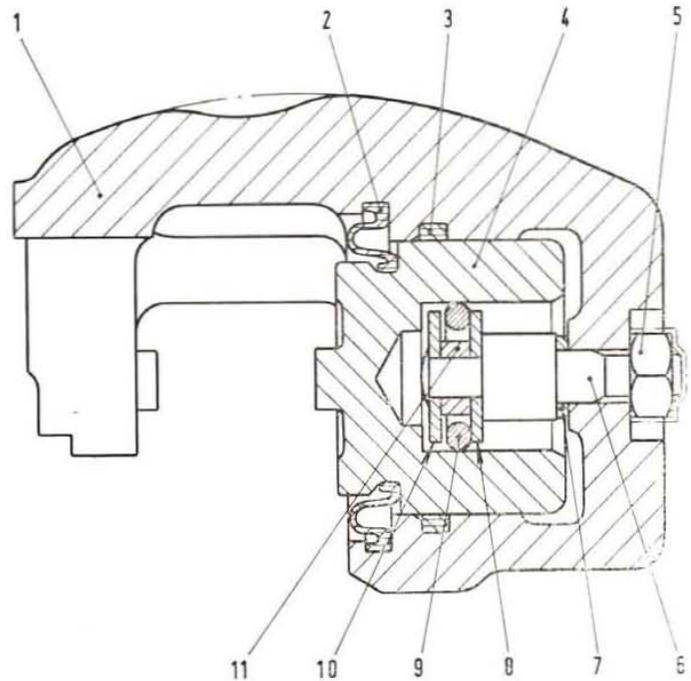

Fig. 451 - Side sectional view of the disc brake caliper.
The self-adjuster is assembled into piston (4, fig. 451) and works in fluid bath. It consists of a steel ring (9) which is sliding with a certain friction in piston interior.
To remove pistons from front calipers, back out the nut (5, fig. 451) and depress pin (6) at end.